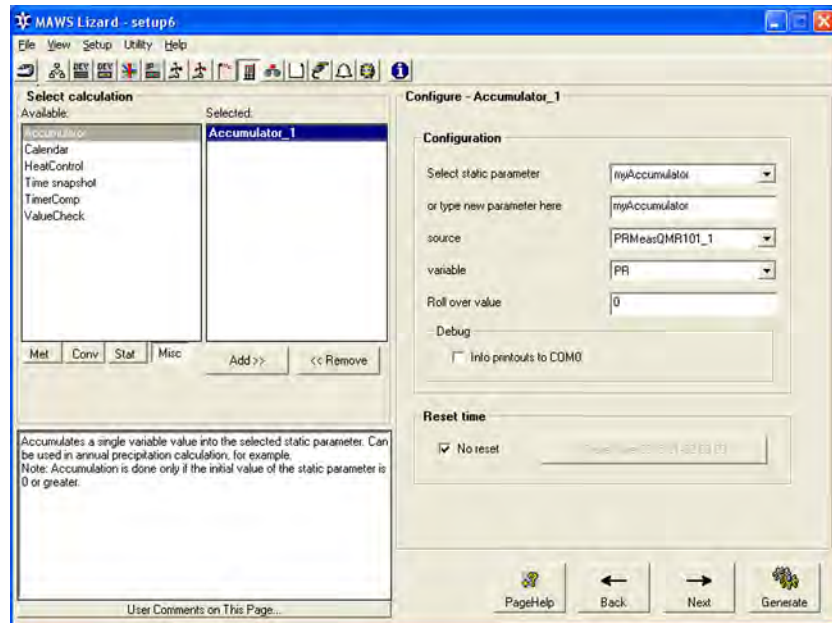

Figure 98 Calculations View: Selecting the Accumulator Component
1. In the **Calculations** view, choose Miscellaneous calculations (**Misc**) by clicking on the correct button below the **Available** list box; see Figure 98 on page 196.